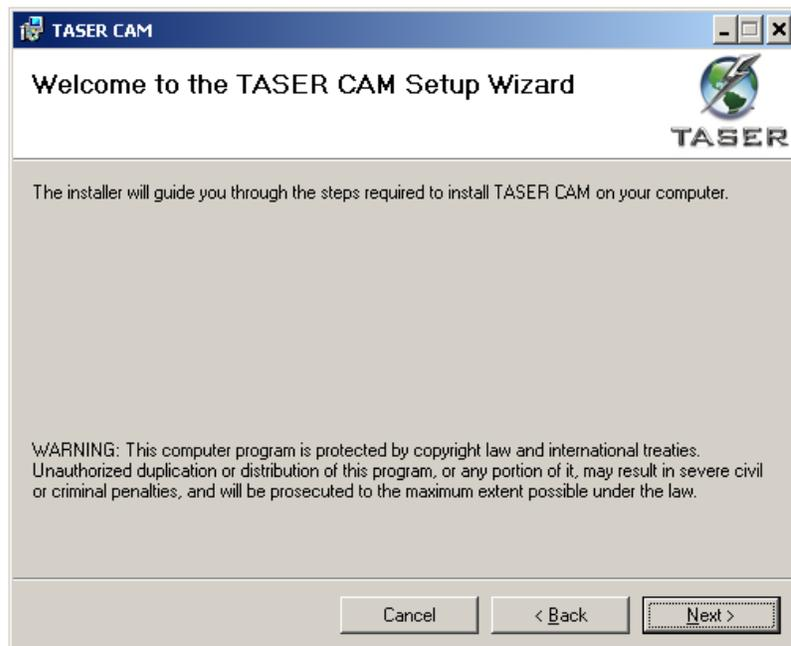

Figure 3
5. Click **Next**. The Welcome to the TASER CAM Data Setup Wizard dialog box displays (Figure 3).